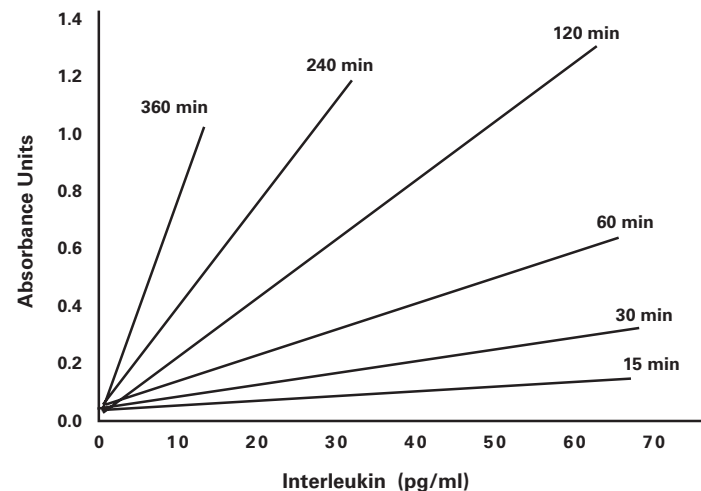

Figure 5. Standard curve at various development times
3. Read the plate at a wavelength between 405-420 nm. Once the S1 wells seem visibly yellow (0.3 A.U., ~20-30 minutes) it will be possible to determine the concentration of the relatively concentrated samples. Longer development times will be necessary to obtain an accurate plot for the lower range of the standard curve and statistically significant values for sample concentrations near the detection limit of the assay (~3.9 pg/ml). Standard curves at various development times are shown above in Figure 5.